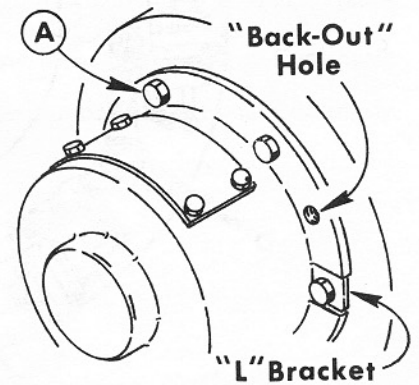

FIGURE 4
- A. Rear Bearing Bracket Removal Procedure. Loosen but do not remove the two 1/2 - 13 exciter stator "L" bracket retaining cap screws (Fig. 4). Remove the four 12 - 13 rear bearing bracket hex head cap screws (Item A, Fig. 4) to release the bracket. Rethread two of these cap screws in the threaded "back-out" holes in the flange of the bracket. Tighten these two screws together to back the bracket off of the bearing. If the exciter stator is to be removed during this operation, remove the rear bearing bracket first, and then follow procedures for EXCITER STATOR REMOVAL AND REPLACEMENT. Once the bracket is free of the bearing, pull it straight back until it is clear of the exciter stator and rotating rectifier assembly. As soon as the internal aligning register of the bracket is free of the rear plate of the frame, the rotor will drop until one pole is resting in the main stator core.